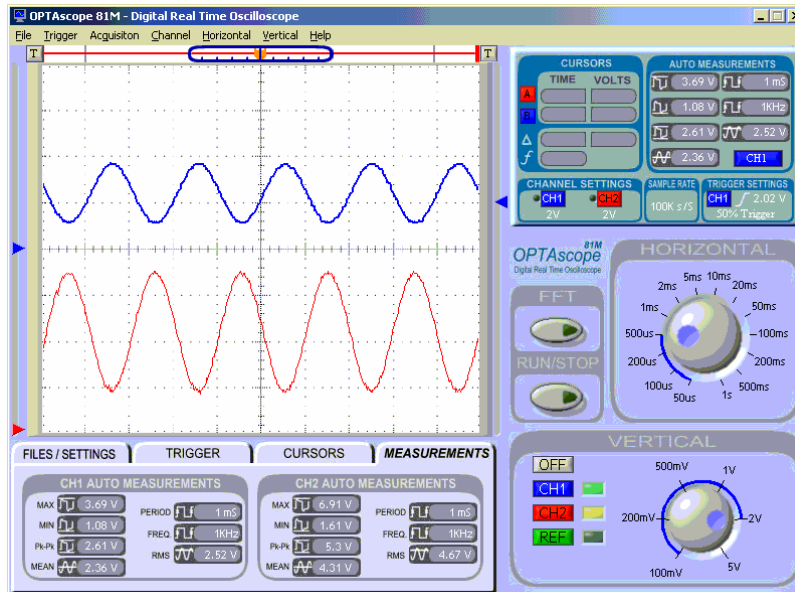

Figure 8-16:
- ✓ Adjust the tap on the potentiometer by gently twisting the knob until the entire signal is visible and no longer clipped, as in Figure 8-16 .